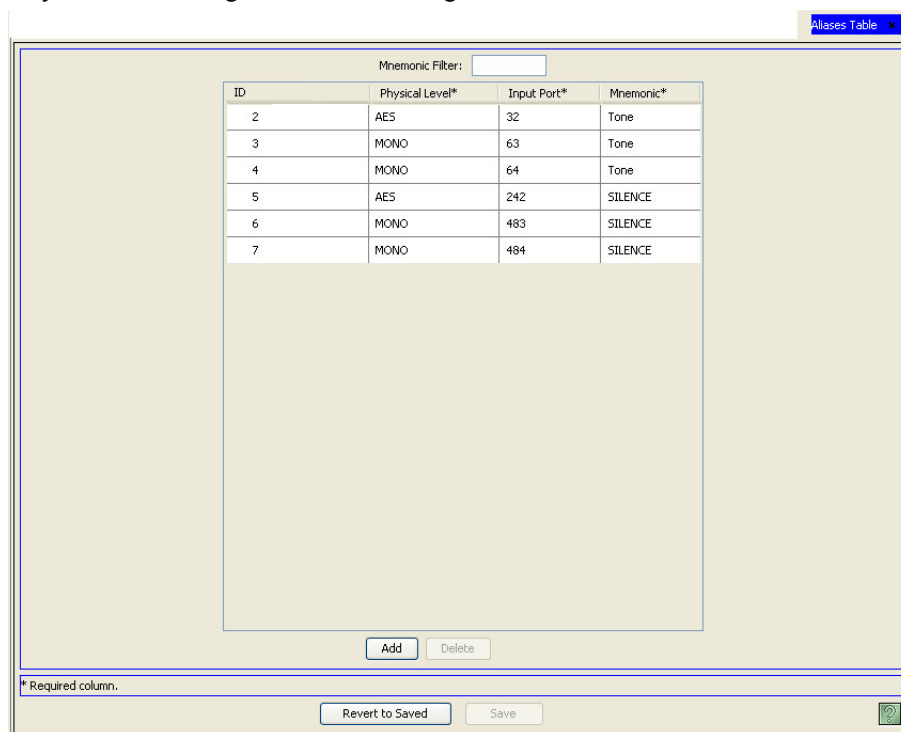

Figure 18-2. Aliases Table
- 2 From the Navigation area, select the ‘Views’ pane and then ‘Aliases’. The ‘Aliases’ table appears, as shown in Figure 18-2.